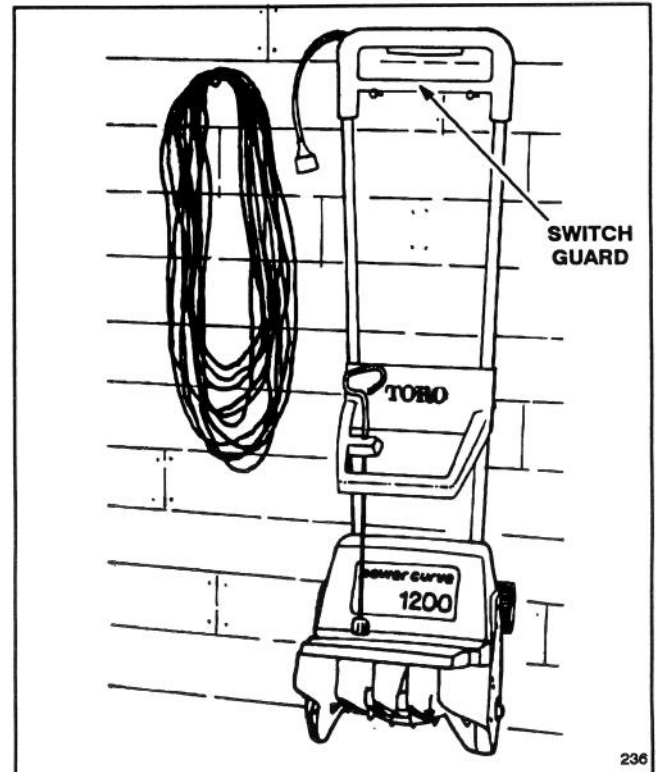

Figure 6
8. Remove the key and disconnect the extension cord when through using the snowthrower. Keep key in a memorable place so it will not be misplaced. Set the vanes in a vertical position and hang snowthrower up by switch guard for convenient storage and to prevent switch damage (Fig. 6). Hang the extension cord with the snowthrower so it will not be misplaced or possibly damaged (Fig. 6).